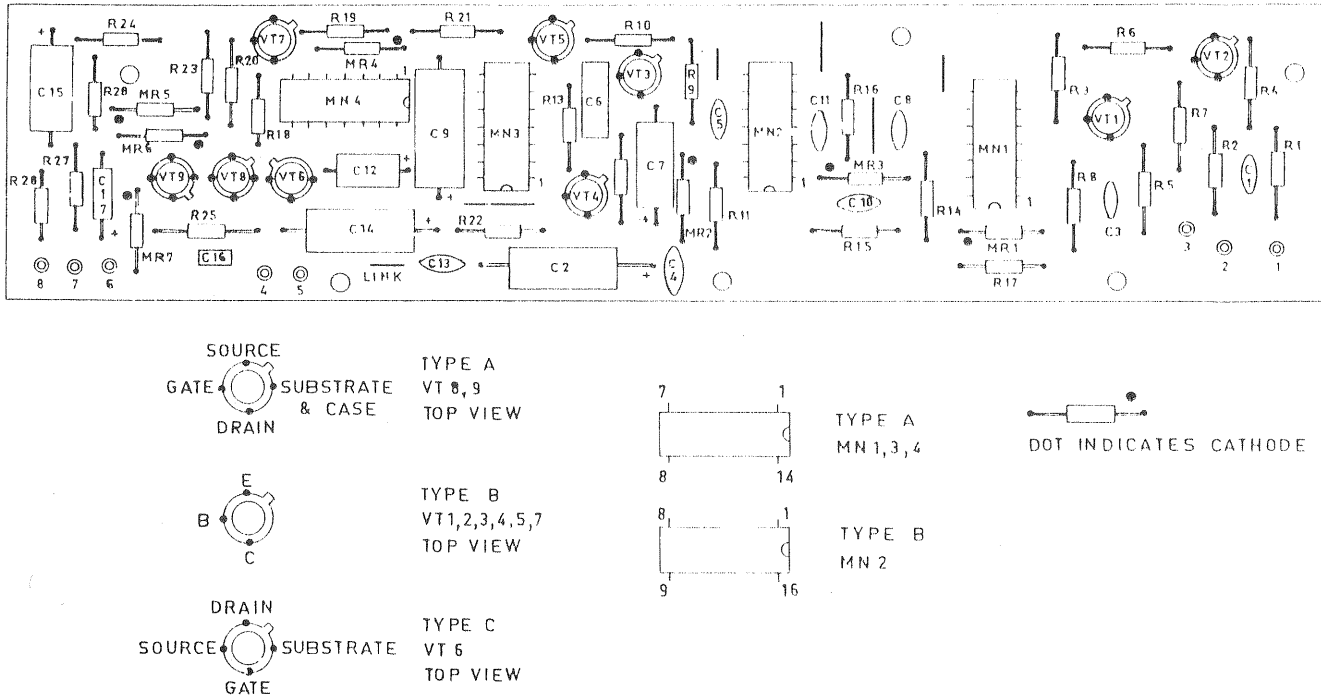

FIG 5 - PHASE COMPARATOR 10-2CB1 - COMPONENT LAYOUT
- (1) Set all switches to the extreme anticlockwise position.
- (2) Change the kHz switch one step at a time; the counter should read 2 500 to 2 509 at steps of one.
**Phase Comparator Board 10-2CB1 (See Fig 5)**
- c. Check the five wire links on the component side of the PCB (See Fig 5).
- d. Check for correct type of components and pay particular attention to the polarity of rectifiers and electrolytic capacitors (See Fig 5).